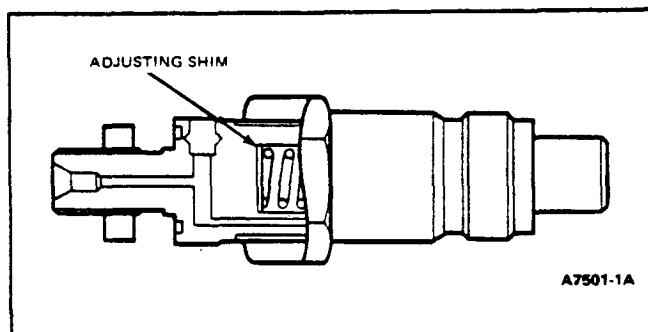

FIG. 31 Adjusting Shim Location
5. **Check nozzle opening pressure.** Open gauge valve, build up line pressure by slowly depressing handle until nozzle opens (sprays fuel). Observe gauge to determine pressure at which nozzle opens, then repeat operation to establish an average opening pressure. Refer to specification at end of this Section. If opening pressure is not within specification, adjust by replacing shim with one of the correct thickness (Fig. 31). Each 0.04mm (0.016 inch) change in shim thickness changes opening pressure by 480 kPa (68 psi) (Fig. 32). Refer to Nozzle Disassembly in this Section.